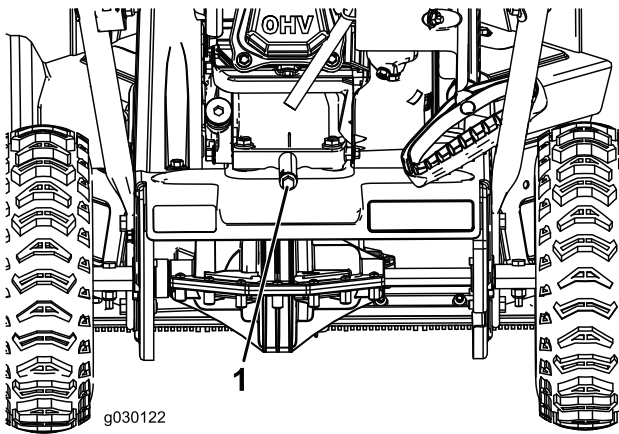

Figure 17
2. Place an oil drain pan under the oil-drain plug, remove the oil-drain plug, and tip the machine backward and drain the used oil in the oil-drain pan (Figure 17).